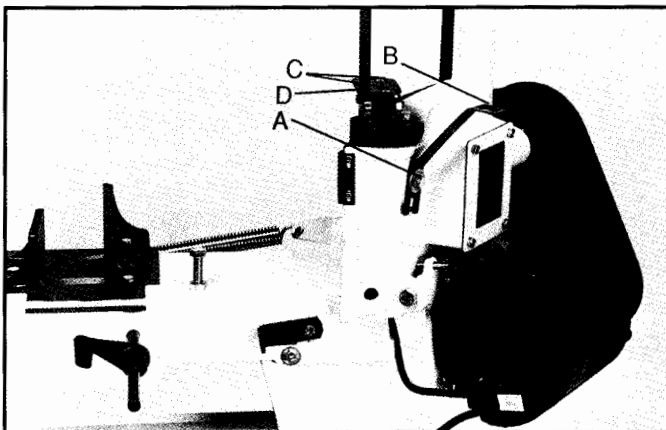

Fig. 5
3. Loosen bolt (A, Fig. 5) and insert bracket (B, Fig. 5). Tighten bolt (A, Fig. 5) just enough to hold the bracket in place.
4. Remove two screws (C, Fig. 5) and plate (D, Fig. 5).
7. Tighten bolt (A, Fig 5).